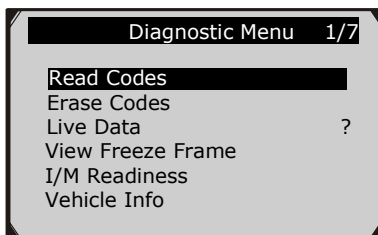

Figure 5.4
- 1) Use the **UP/DOWN** scroll buttons to select **Erase Codes** from **Diagnostics Menu** and press the **OK** button. (Figure 5.4)
- 1) To view freeze frame data, use the **UP/DOWN** scroll button to select **View Freeze Frame** from **Diagnostic Menu** and press the **OK** button. (Figure 5.4)